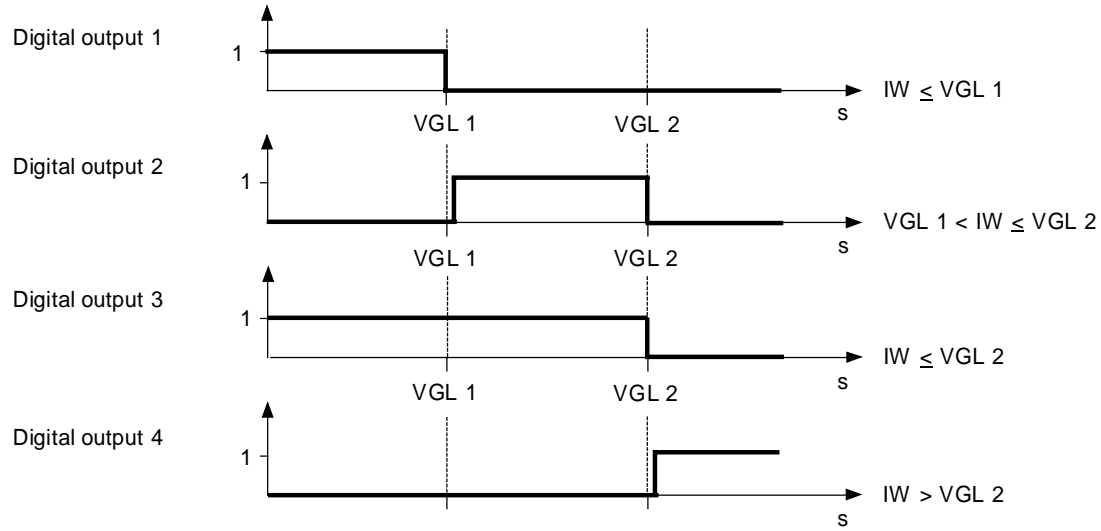

Figure 3.10 Behaviour of the outputs in position decoding variant 1 DIR = 0 (forward); VGL 1 < VGL 2
- Forward (DIR = 0): VGL 1 < VGL 2 (see figure 3.10)
The actual value is permanently compared with the comparative values. The result is represented, depending on the counting direction, on the digital outputs (see figures 3.10 and 3.11). The status of the outputs can be read out via the status register.